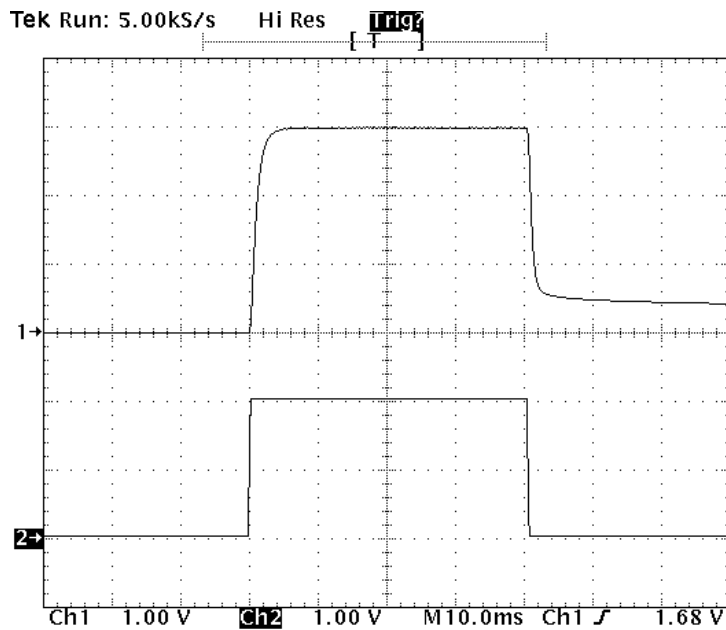

Fig. 9
- The oscillogram must appear as shown in Fig. 9.